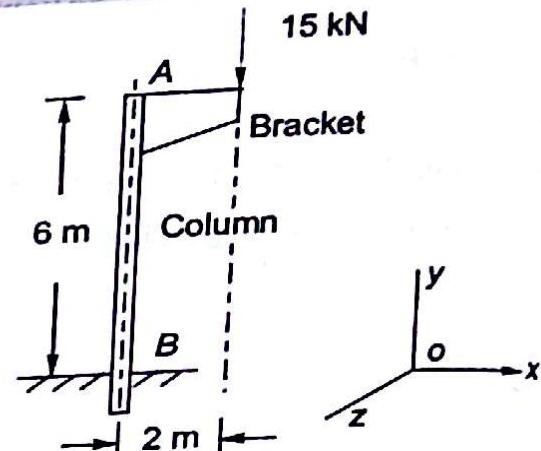

Fig. 1.29
1.2 A bracket is fixed on a vertical column, 6 m high from the ground. Bracket supports a load of 15 kN at its end, 2 m from axis of column as shown in Fig. 1.29. What is moment of the force at the fixed end *B* of column? Express the moment as vector.